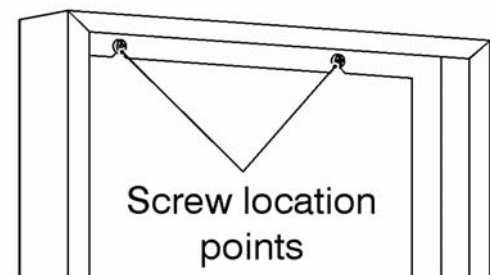

Figure 8. Location points
- 2.** Mark the upper positions of the key hole slots on the rear wall (See figure 8).